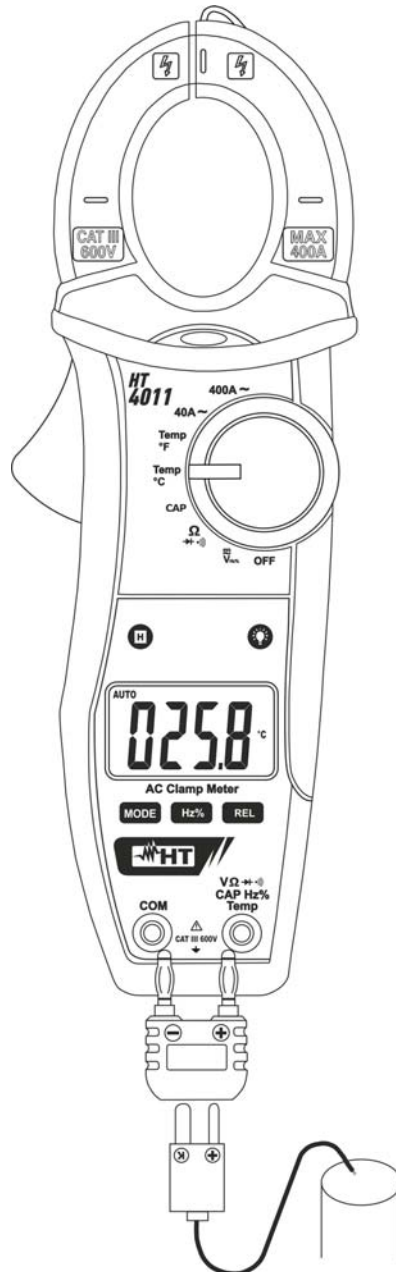

Fig. 9: Use of the clamp for temperature measurement with type K probe
2. Insert the K wire probe provided into input terminal **VΩ→+·»CAPHz%Temp** and **COM** by means of the relevant adapter, respecting the polarity indicated in Fig. 9. The display shows the value of temperature.